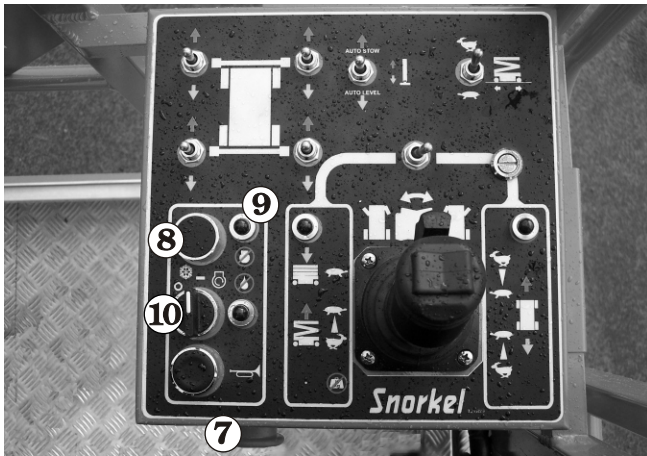

Figure 8.17
6. Turn the **Emergency Stop** switch ⑦ clockwise and it will pop out (on) (see Figure 8.17).
7. If the engine is at ambient temperature, momentarily press the GLOW-PLUG switch ⑧. This action will automatically turn the glow-plugs, in the engine, on for 10 seconds. A light ⑨ will automatically come on to indicate that the glow-plugs are on (see Figure 8.17).
8. When the light ⑨ goes out, press and hold the START switch ⑩ until the engine starts or for 20 seconds, whichever comes first. When the engine starts, release the START switch ⑩ (see Figure 8.17).